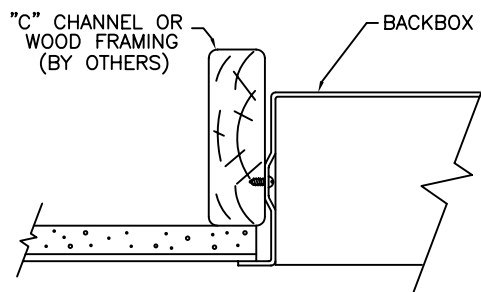

FIGURE 7
- 2) SECURE BACKBOX TO FRAMING WITH SCREWS AT BOTH ENDS (SEE FIGURE 7)